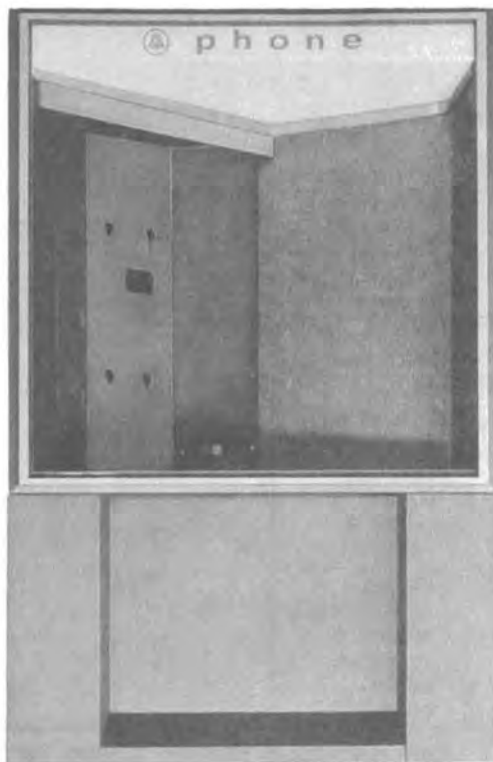

Fig. 8—List 1 Housing with List 10 Panel
- (e) If applicable, install List 10 directory dress panel in wall under the housing (Fig. 8) using six No. 10 FH wood screws or equivalent.